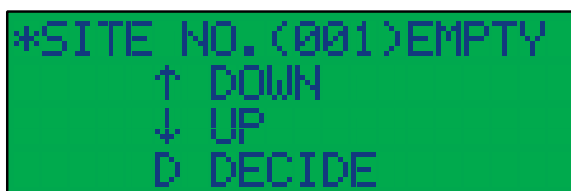

Fig.6.3-1 SITE Selection Screen
- Once CTS-02V4 is started up, information on version of measurement instrument, date and time in the internal clock and parameters set-up are displayed, and then move to SITE selection screen (See Fig.6.3-1). This is an initial state.